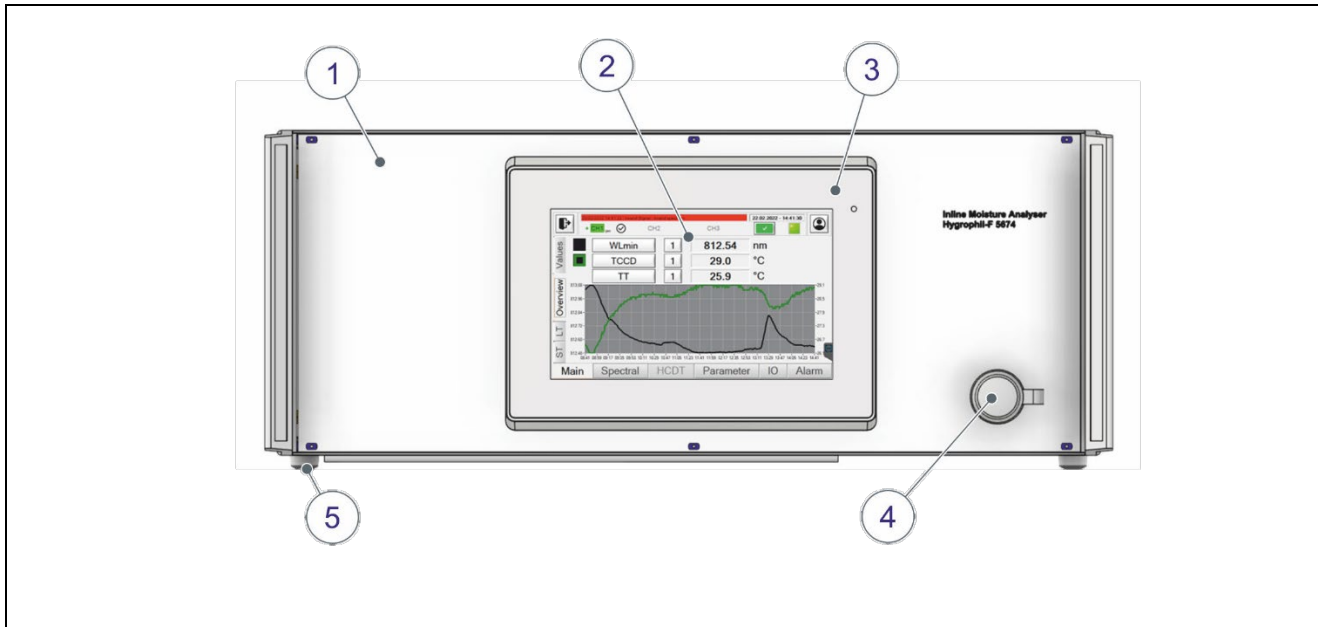

Figure 4-1: Device overview front side
- ▶ Install the device in a 19" rack (4 rack units) (see *Figure 4-1 on page 18*).